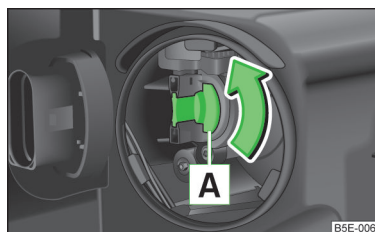

Fig. 223
- Turn the bulb holder **A** » Fig. 223 as far as it goes in the direction of the arrow and remove it.